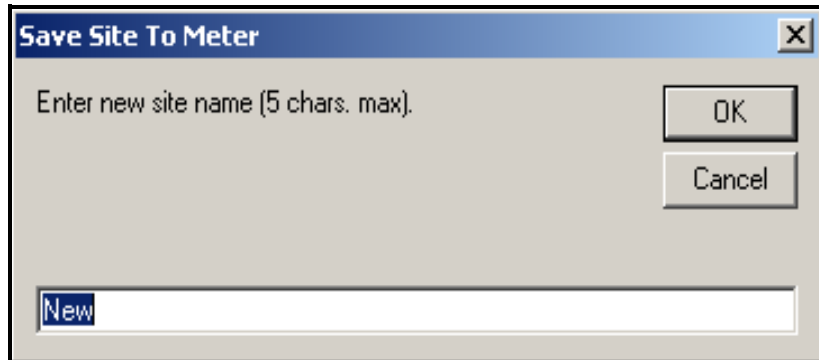

Figure 16: Site Name Entry Window
2. A window opens similar to Figure 16 below. Enter the desired name, and click [OK].